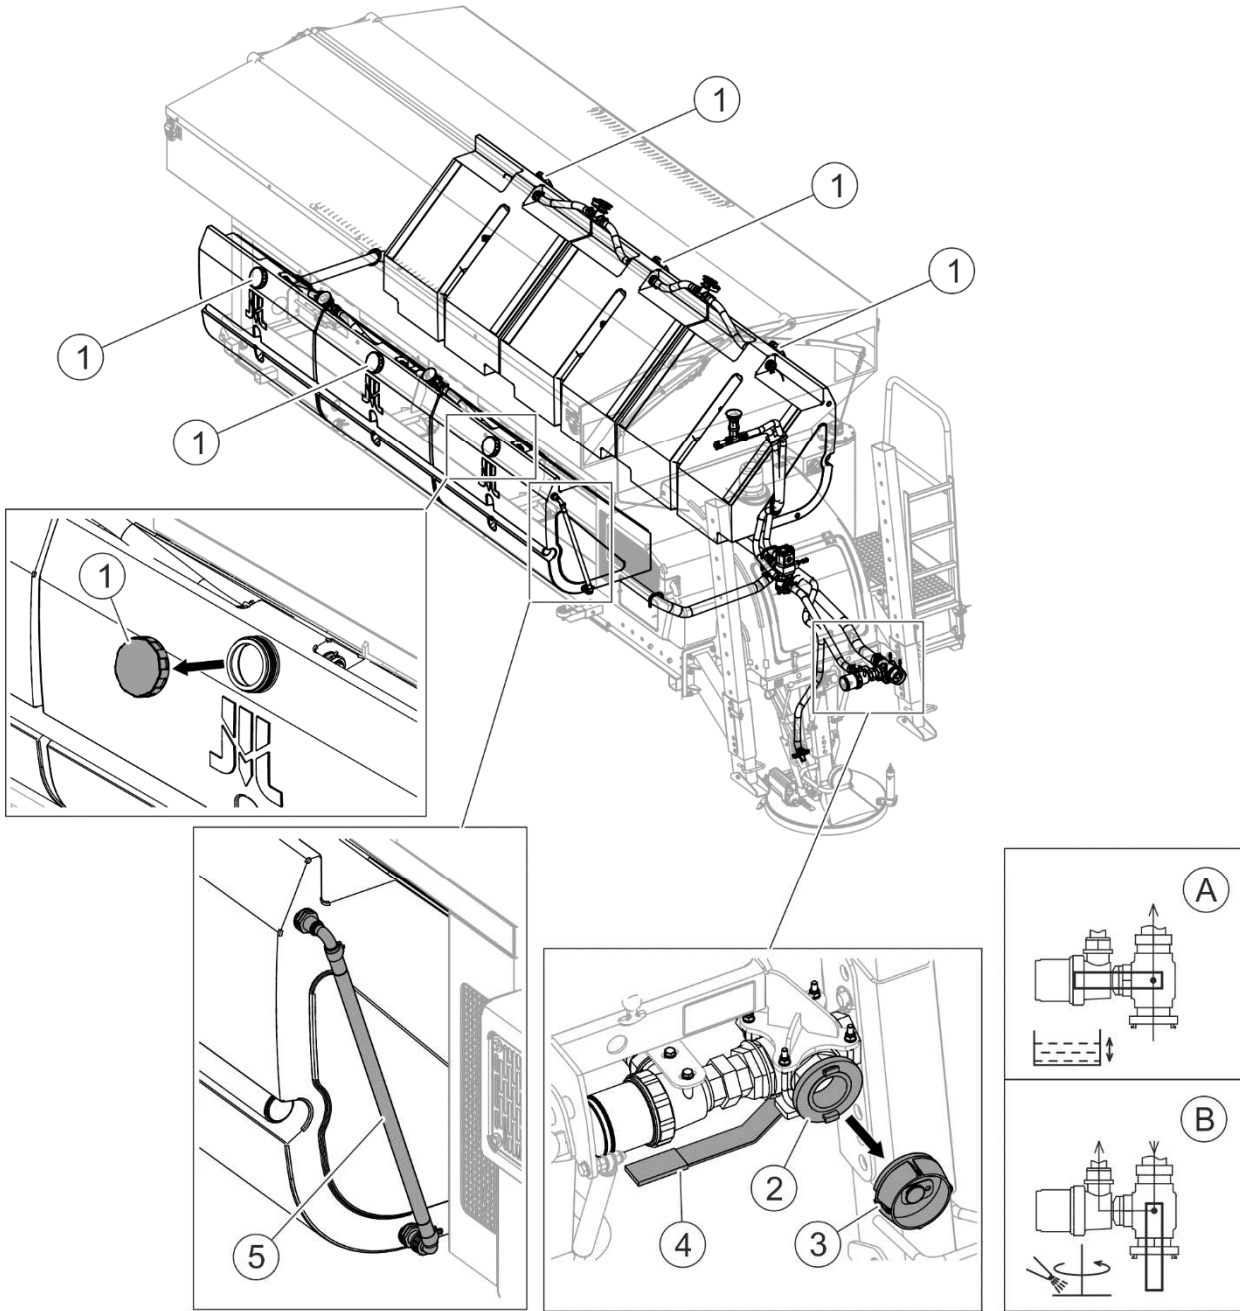

FIGURE 4.19 Filling the tank with brine
The tanks can be filled with brine (FIGURE 4.19) through tank openings secured with plugs (1) or through STORZ 52C connection (2) secured with a plug (3).
In order to fill the tanks with brine (FIGURE 4.19) through connection (2):
- set valve lever (4) in position (B),
- unscrew plug (3) and connect filling hose to connection (2),
- set valve lever (4) in position (A) and start filling,
- brine level is checked on brine level indicator (5) located on the tank,
- when filling is completed, set lever (4) to position (B),
- disconnect filling hose and tighten plug (3).